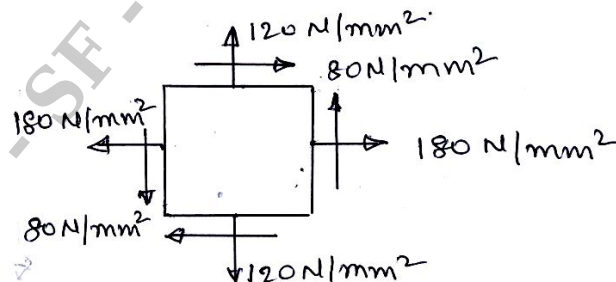

Fig. Q3 (b)
- b. The state of stress at a point in a strained material is as shown in Fig. Q3 (b). Determine